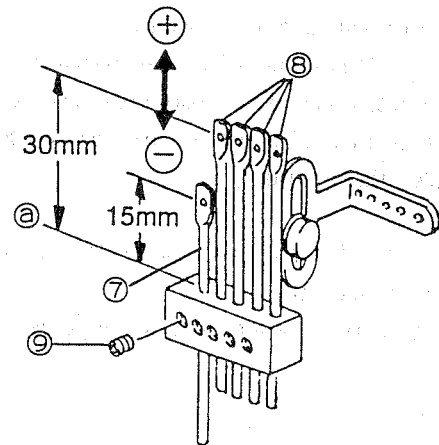

Fig.27
2) Needle thread guides ⑦ and ⑧ (Fig. 27)